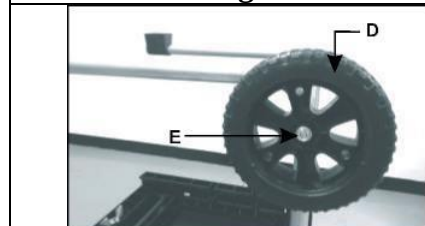

Fig. 3c
Place the wheels (D) and tighten nut (E) by hand (Fig. 3C).